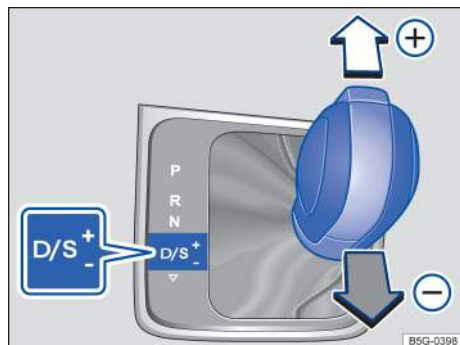

Fig. 102 Selector lever in Tiptronic position.
- Briefly push the selector lever forward  to upshift into a higher gear or pull it backward  to downshift into a lower gear → fig. 102.